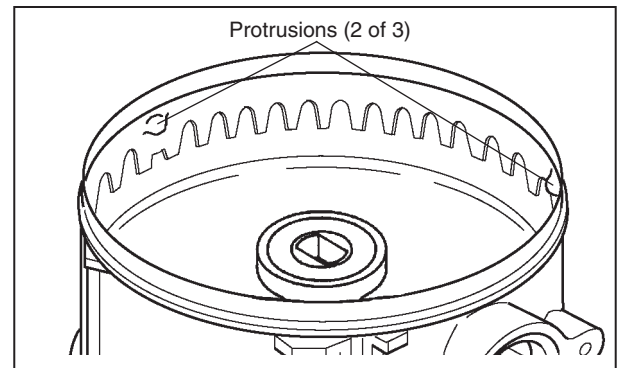

Figure 4.11
13. Locate three half-round protrusions on inside of stationary shredder (see Figure 4.11).